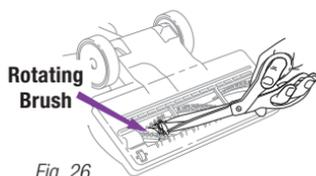

Fig. 26
- 2 Inspect the opening underneath and the rotating brush. If a build-up of debris is present, remove it. Carefully cut anything wound around the rotating brush with scissors. Avoid damaging or cutting the bristles. (Fig. 26)